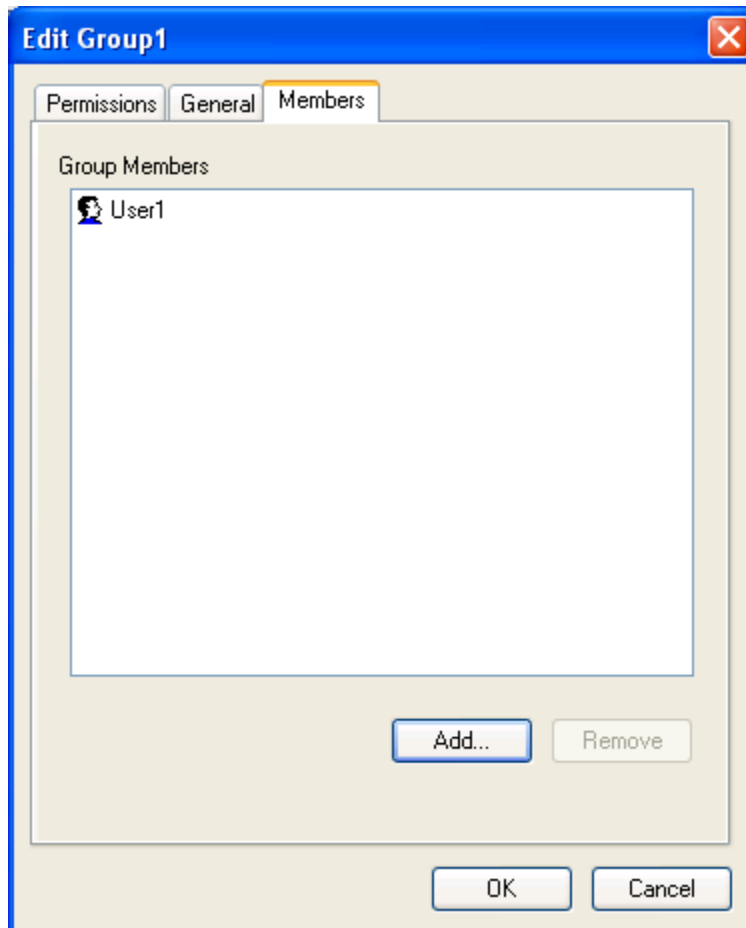

Figure 59 - Edit <Groupname> Window (Members Tab)
On the **Members** tab (Figure 59), the users that are part of the current group are defined. By default, the **Group Members** screen section is empty. In Figure 59, **User1** has been added to **Group1**.
3. Click on the **OK** button. The selected user or users appear in the **Group Members** screen section on the **Members** tab (Figure 59).